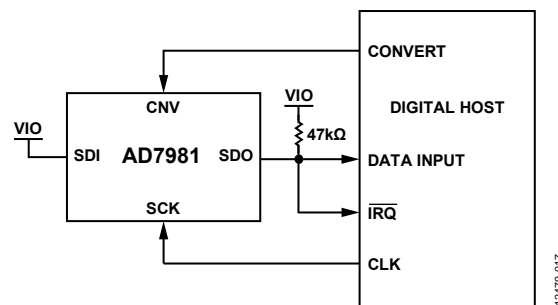
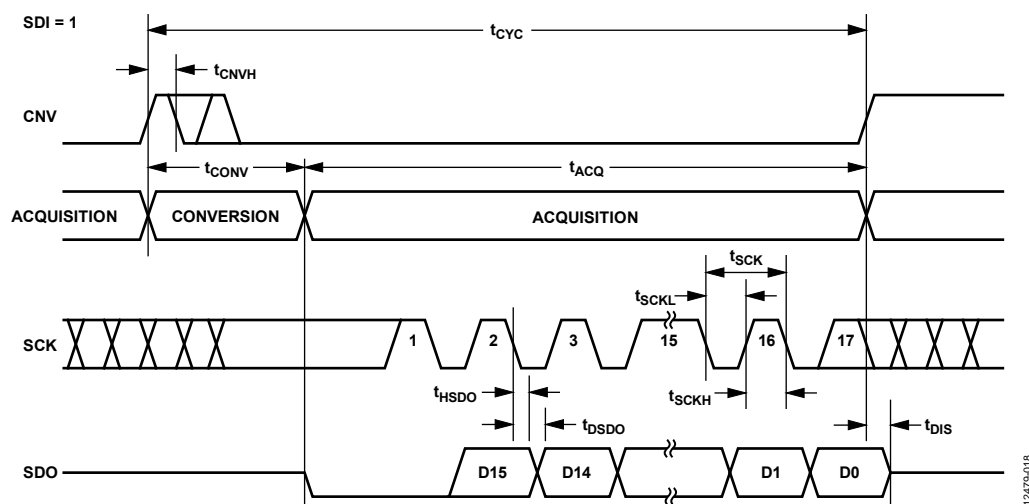
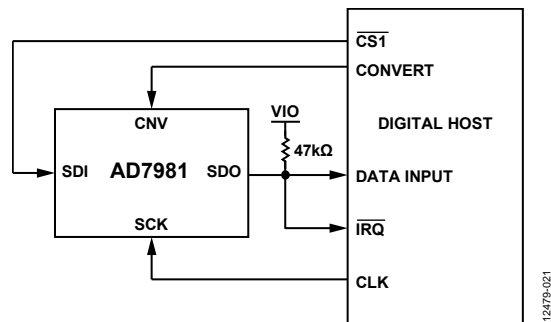
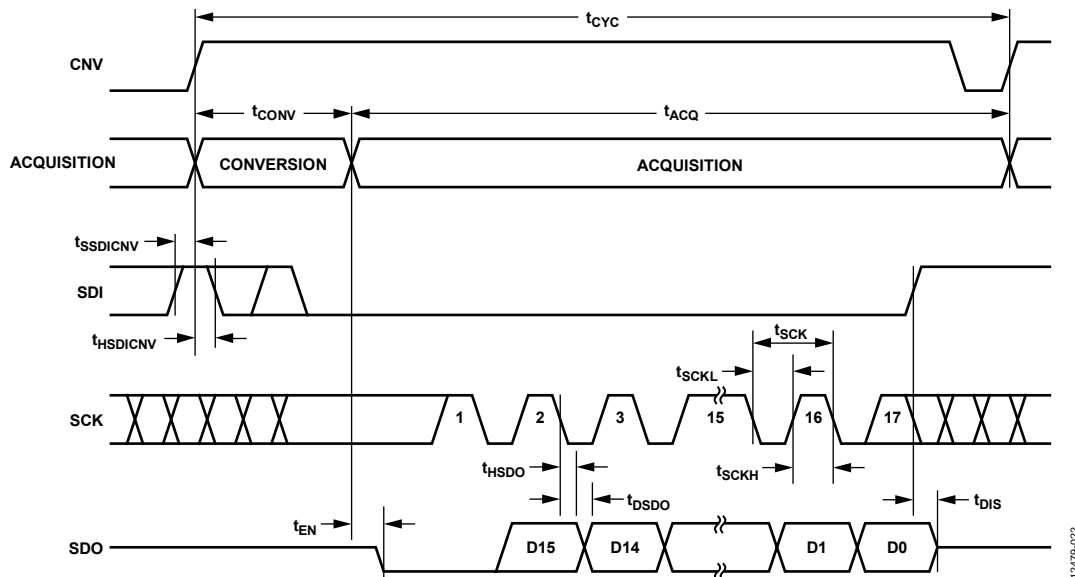

Figure 44. 3-Wire  $\overline{\text{CS}}$  Mode with Busy Indicator Connection Diagram (SDI High)
Figure 45. 3-Wire  $\overline{\text{CS}}$  Mode with Busy Indicator Serial Interface Timing (SDI High)
Figure 48. 4-Wire  $\overline{\text{CS}}$  Mode with Busy Indicator Connection Diagram
Figure 49. 4-Wire  $\overline{\text{CS}}$  Mode with Busy Indicator Serial Interface Timing
- In  $\overline{CS}$  mode if CNV or SDI is low when the ADC conversion ends (see Figure 45 and Figure 49, respectively).
The 3-wire  $\overline{\text{CS}}$  mode with a busy indicator is typically used when a single AD7981 is connected to an SPI-compatible digital host having an interrupt input. The connection diagram is shown in Figure 44, and the corresponding timing is given in Figure 45.
The connection diagram is shown in Figure 48, and the corresponding timing is given in Figure 49.